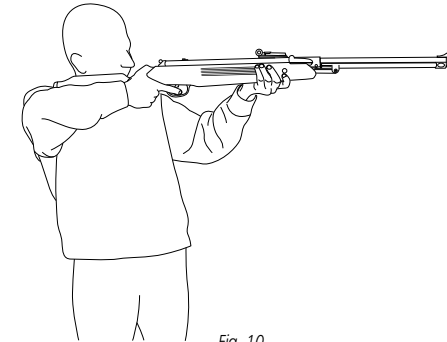

Fig. 10
- Sight in\*, disengage safety and get ready for shooting. (Fig. 10)